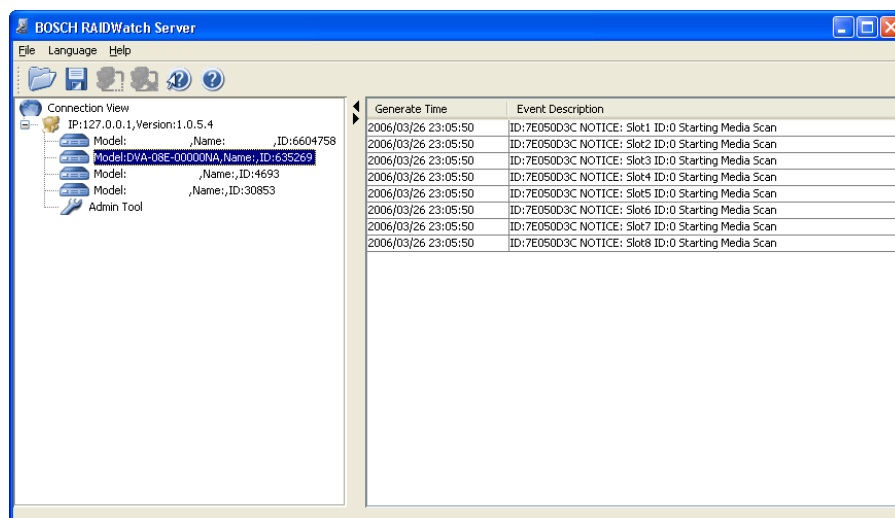

Fig. 1.1 RAIDWatch Server Event Screen
An example of the RAIDWatch Server program screen is shown in Figure 1.1.
1. If the audible alarm is beeping, press the [MUTE] button on the LCD panel (see Figure 1.1) or use hyper terminal to stop the alarm. (Refer to Method 1.1.4.)
1. To stop the alarm beeping, press the [MUTE] button on the LCD panel (see Figure 1.1) or use hyper terminal to stop the alarm. (Refer to Method 1.1.4.)
2. If the audible alarm is beeping, press the [MUTE] button on the LCD panel (see Figure 1.1) or use hyper terminal to stop the alarm. (Refer to Method 1.1.4.)